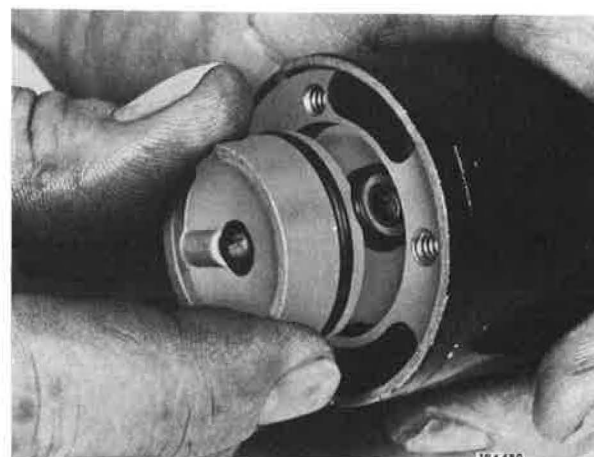

Figure 5-840. Installing Rotor
7. Hold exhaust valve in place against its spring, and install rotor into valve body. See Figure 5-840.